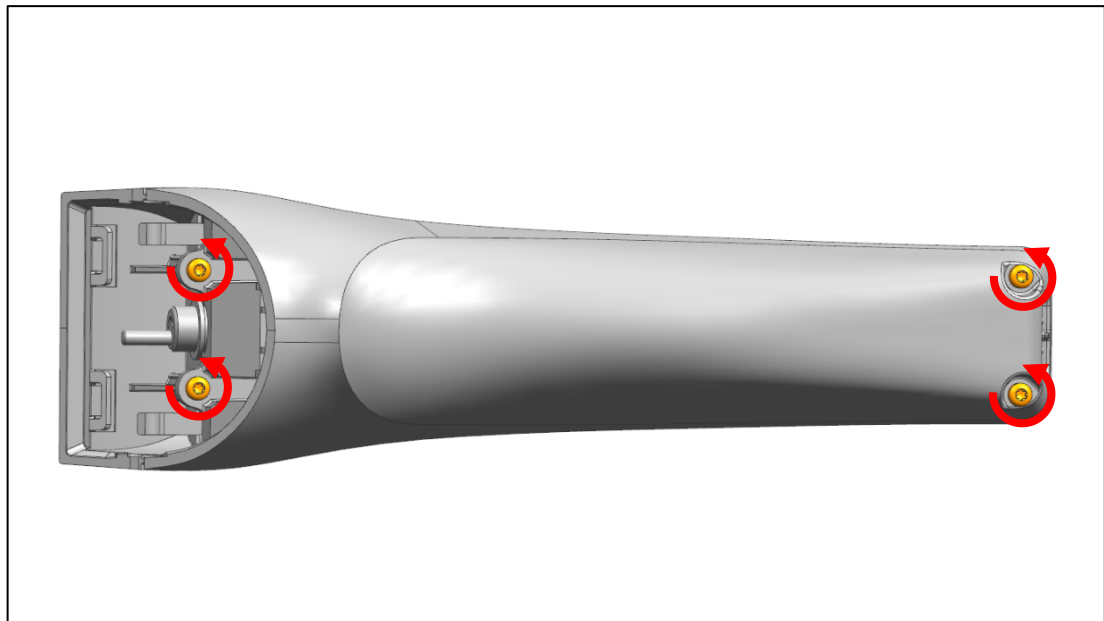

Fig. 5
- a) Undo the four marked screws. Use a Torx 7 screwdriver for this (Fig. 5).